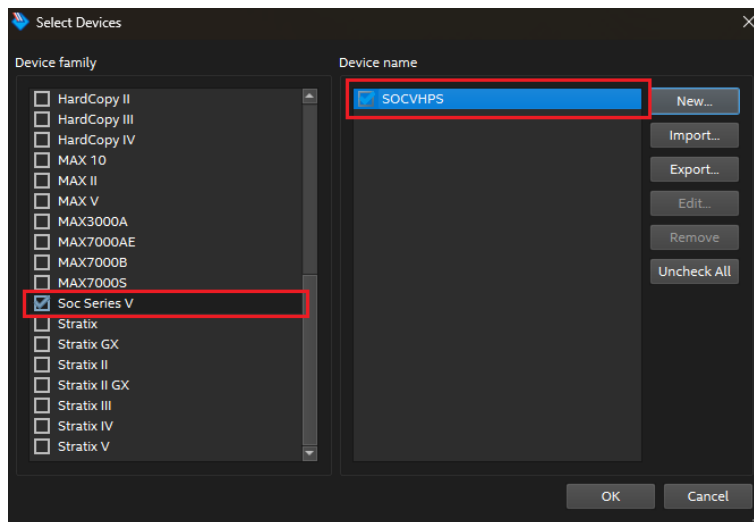

Figure 16. Add SOCVHPS
33. On the left side of the *Programmer* window, click on **Add Device**. A new window with two columns will appear. In the first column, look for **SoC Series V** and in the second column, select **SOCVHPS**, as shown in Figure 16. Finally, click **OK**.